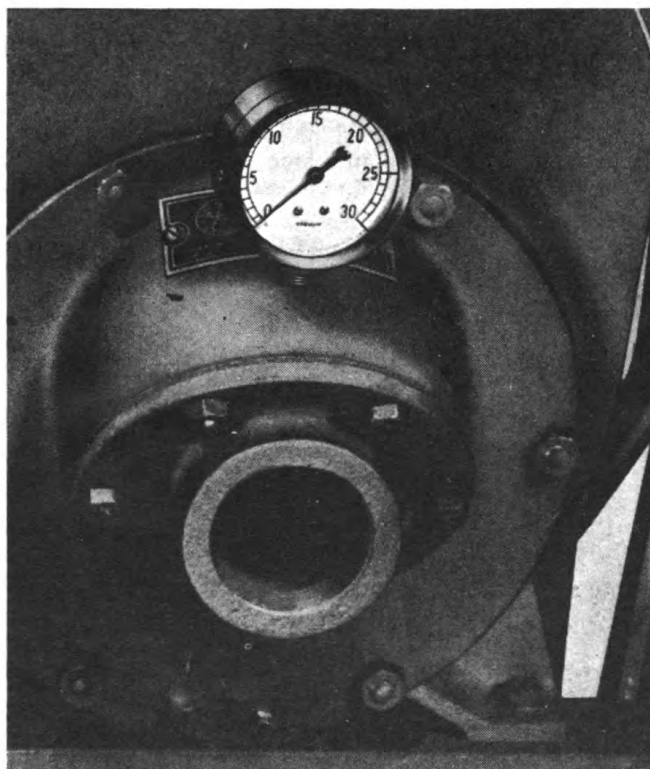

Figure 4. Vacuum gauge.
12. Instruments (fig. 4)
e. VACUUM GAUGE. Install the vacuum gauge and check its operation after starting the engine. (See fig. 4.)